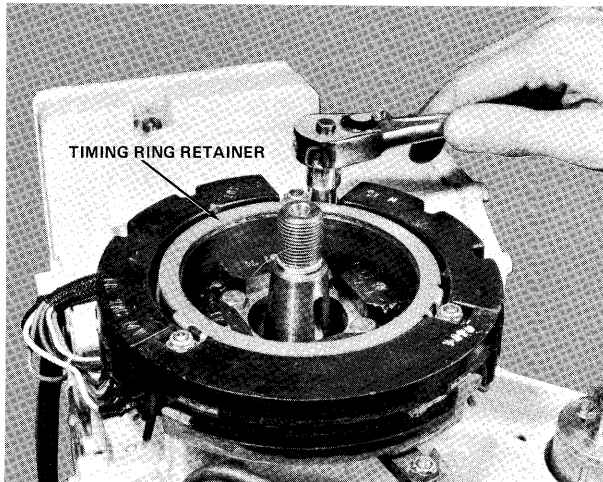

Figure 12 - Removing Timing Ring Retainer
- C. Remove four (4) stop nuts, timing ring retainer and four bowed washers securing timing ring retainer to studs and remove timing ring retainer. Refer to figure 12.